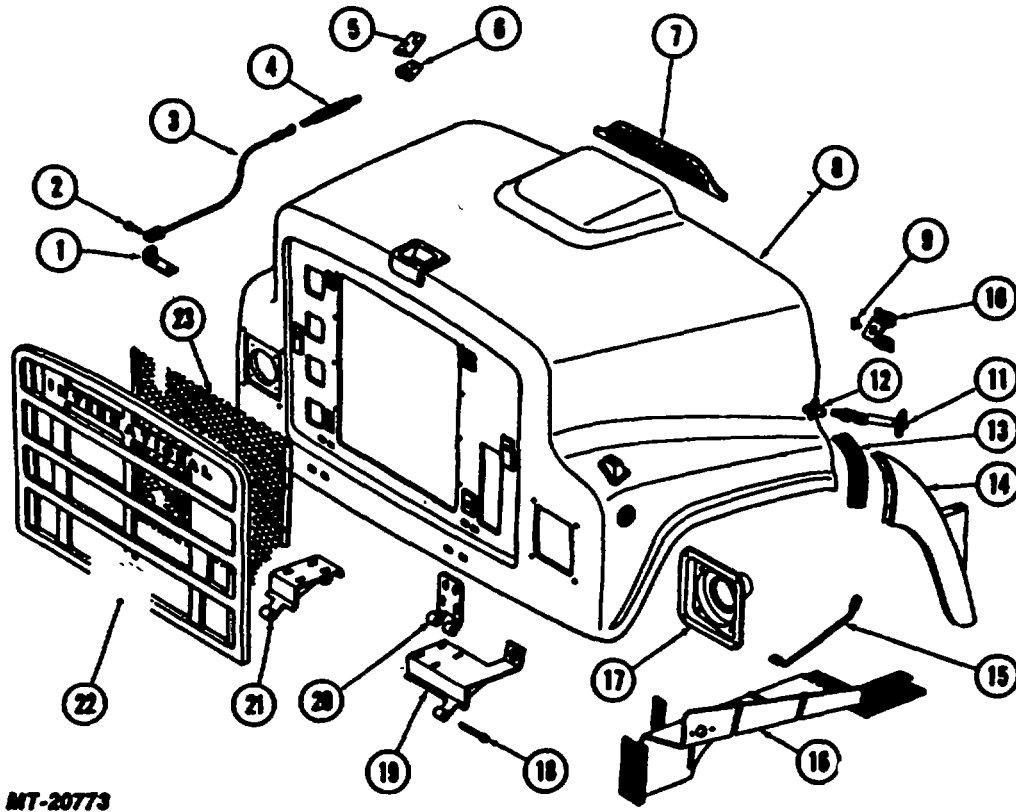

Fig. 3 Hood and Hinge Mounting
Tilt type hoods (Figs. 3 & 4) used with S-Series cabs are one-piece molded fiberglass units.
6. Hood-to-frame hinge mounting details for the various size hoods are shown in Figs. 3 and 4.